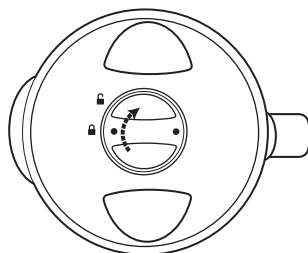

Figure 10
6. Add ingredients to the Glass Blending Jar and secure the Blending Jar Lid. Make sure that the Blending Jar spout is perfectly aligned with the spout cover on the Lid; the tab at the back of the Lid lines up with the Blending Jar Handle. Insert Lid Cap into the hole in the Lid and following the icons on the top of the Lid, turn counter-clockwise to lock into position. (See Figure 10.)